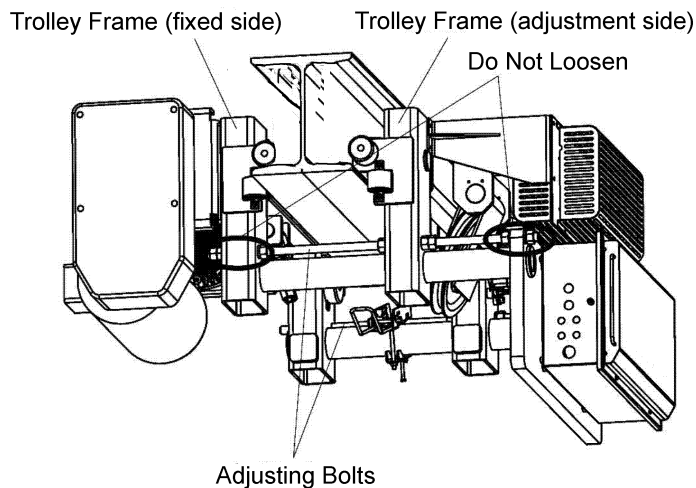

Figure 3-7 Adjusting distance between frames to accommodate beam
- 3) **⚠ CAUTION** Only move/adjust the Trolley Frame “adjustment side” (side with trolley motor) of the trolley. The “adjustment side” is easily identifiable as the trolley motor is bolted to it. Never loosen the Adjusting Bolt Nuts on the “fixed side” or attempt to move the “fixed side” of the Trolley Frame. See **Figure 3-7** for Trolley Frame identification. “Adjustment side” (trolley motor) side is shown in **Figure 3-7 and Figure 3-8**.
To widen the flange width: Loosen the adjusting nut on the outer side of the trolley frame (adjustment side) and tighten the nut on the inner side of the trolley frame (adjustment side) shown in **Figures 3-8**. This must be performed uniformly on both Adjusting Bolt locations on each end of the hoist as shown in **Figures 3-7**. Confirm dimension "A" as referenced in **Figure 3-10**.
To narrow the flange width: Loosen the adjusting nut on the inner side of the trolley frame (adjustment side) and tighten the nut on the outer side of the trolley frame (adjustment side) shown in **Figures 3-8**. This must be performed uniformly on both Adjusting Bolt locations on each end of the hoist as shown in **Figures 3-7**. Confirm dimension "A" as referenced in **Figure 3-10**.